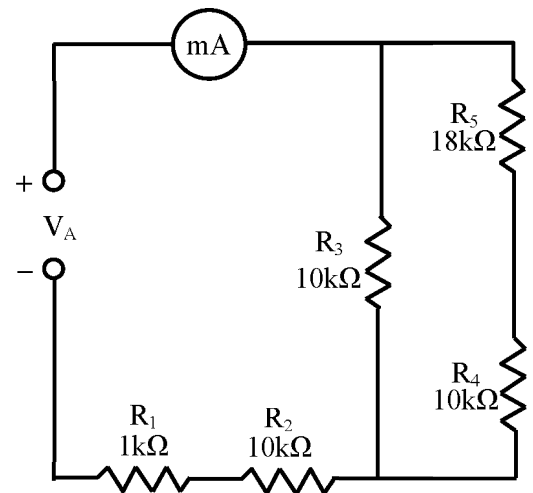

Figure 23-1
1. Connect the circuit as shown in Figure 23-1.